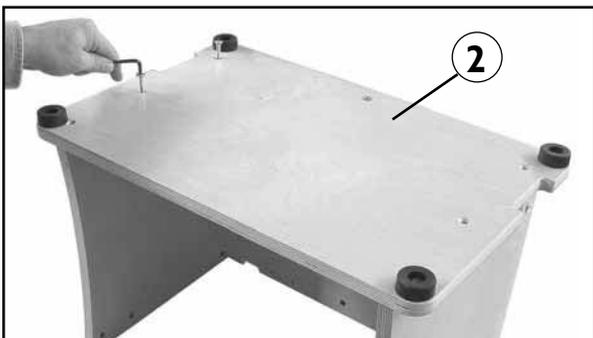

Fig. 6
6. Attach base panel to cabinet assembly. Flip the cabinet assembly upside down, as shown in **Fig 6**. Use the 1/4-20 x 1 3/4" flat head socket cap screws (19) and 1/4-20 cross dowels (23). Tighten securely. Flip the cabinet assembly right side up when done.